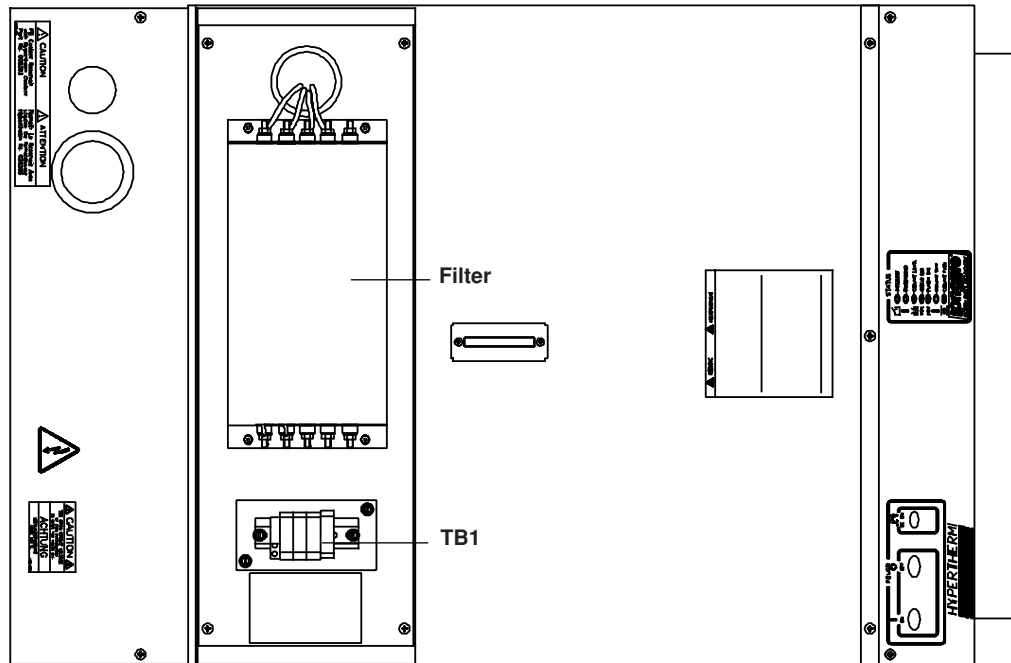

Figure e-2 Power Supply with EMI Filter Cover Off – Top View
2. Unscrew the four filter cover screws and remove cover to access input voltage connections at TB1 (see Figure e-2).